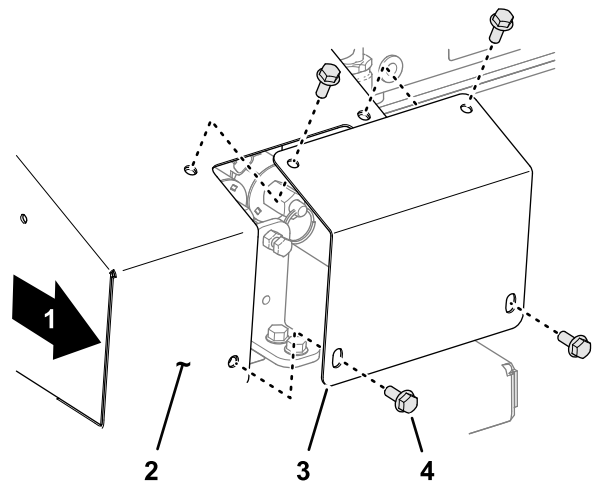

Figure 28
1. At the right side of the machine, remove the 4 flange-head capscrews that secure the cover plate to the override cover (Figure 28).